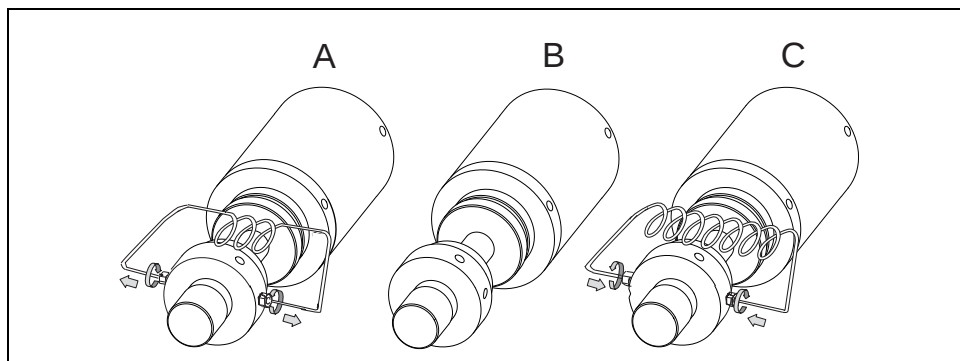

Figure 15-24. Sampling Loop Installation/Replacing
4. By using the 1/4-inch wrench, loosen the two fittings of the sampling loop, and remove it. See **A** and **B** of Figure 15-24.